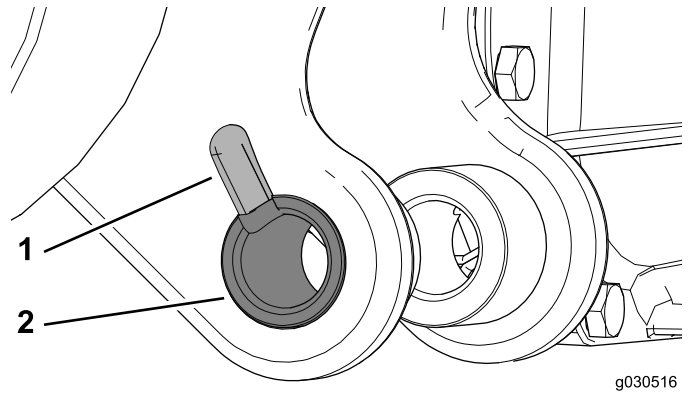

Figure 4
2. Verify the cutout for the roll pin on the spacer is aligned with the inset for the roll pin on the pivot bracket (Figure 4).